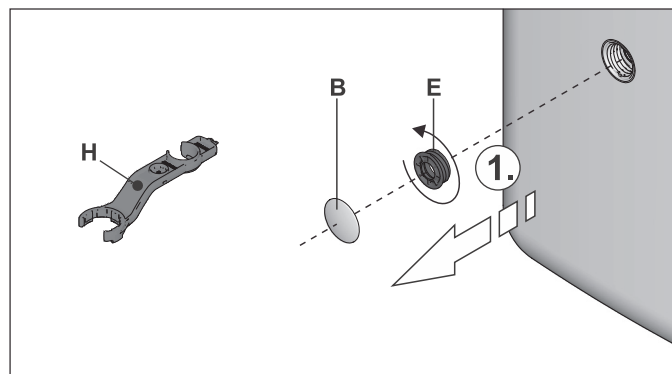

Fig. 5-2 Unscrewing the threaded piece
- 1 Remove the cover plate (fig. 5-2, item J) from the filling and draining connection.
- Remove the cover panel on the handle and unscrew the threaded piece (fig. 5-2, item E) from the storage tank.